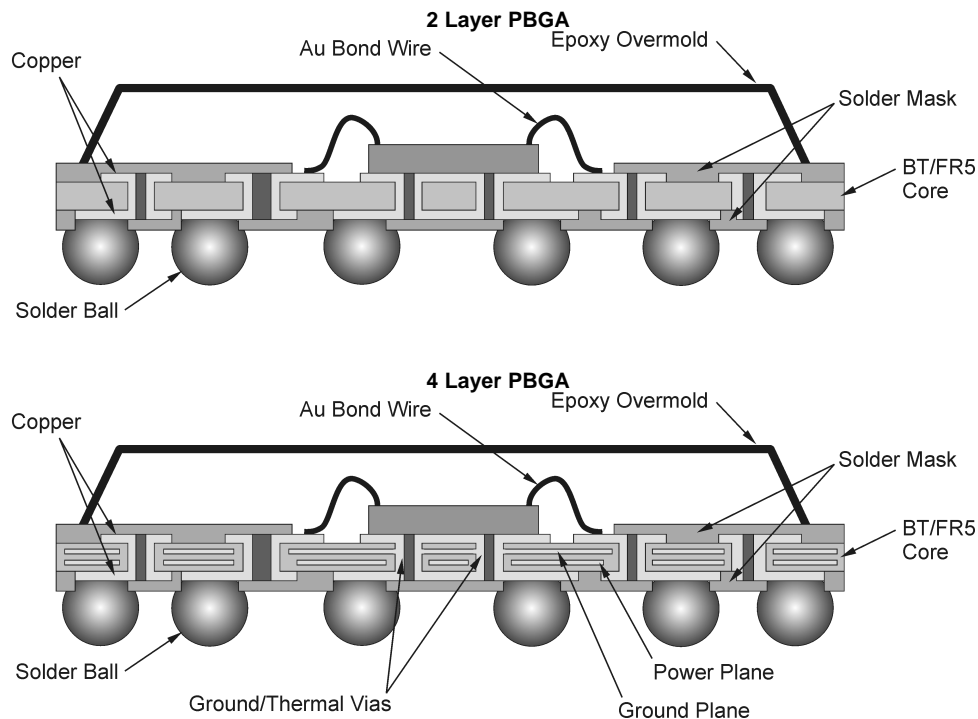

Figure 2. Cross-Sectional View of 2 and 4 Layer PBGA
The PBGA (Plastic Ball Grid Array) package is a cavity-up package based on a PCB substrate fabricated of Bismaleimide Triazine (BT) or FR5 epoxy/glass laminate; Figure 2.